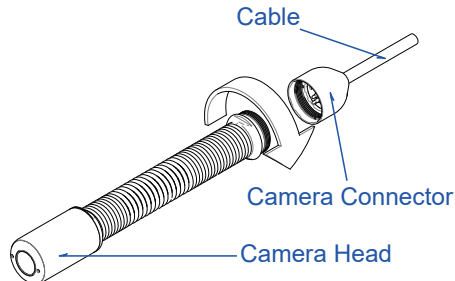

Figure 8. Install Camera Head
3. Install Camera Head (Figure 8.)